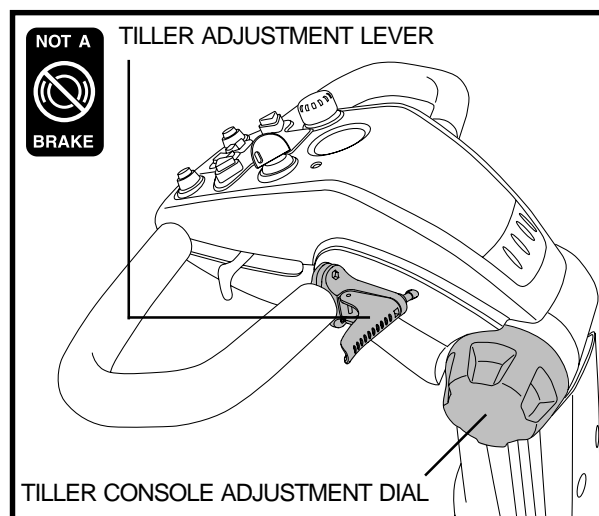

Figure 14. Tiller/Tiller Console Adjustment
1. Squeeze the tiller adjustment lever. See figure 14.
1. Loosen the adjustment dial (turn counterclockwise) and move the tiller console up or down to a comfortable riding position. See figure 14.